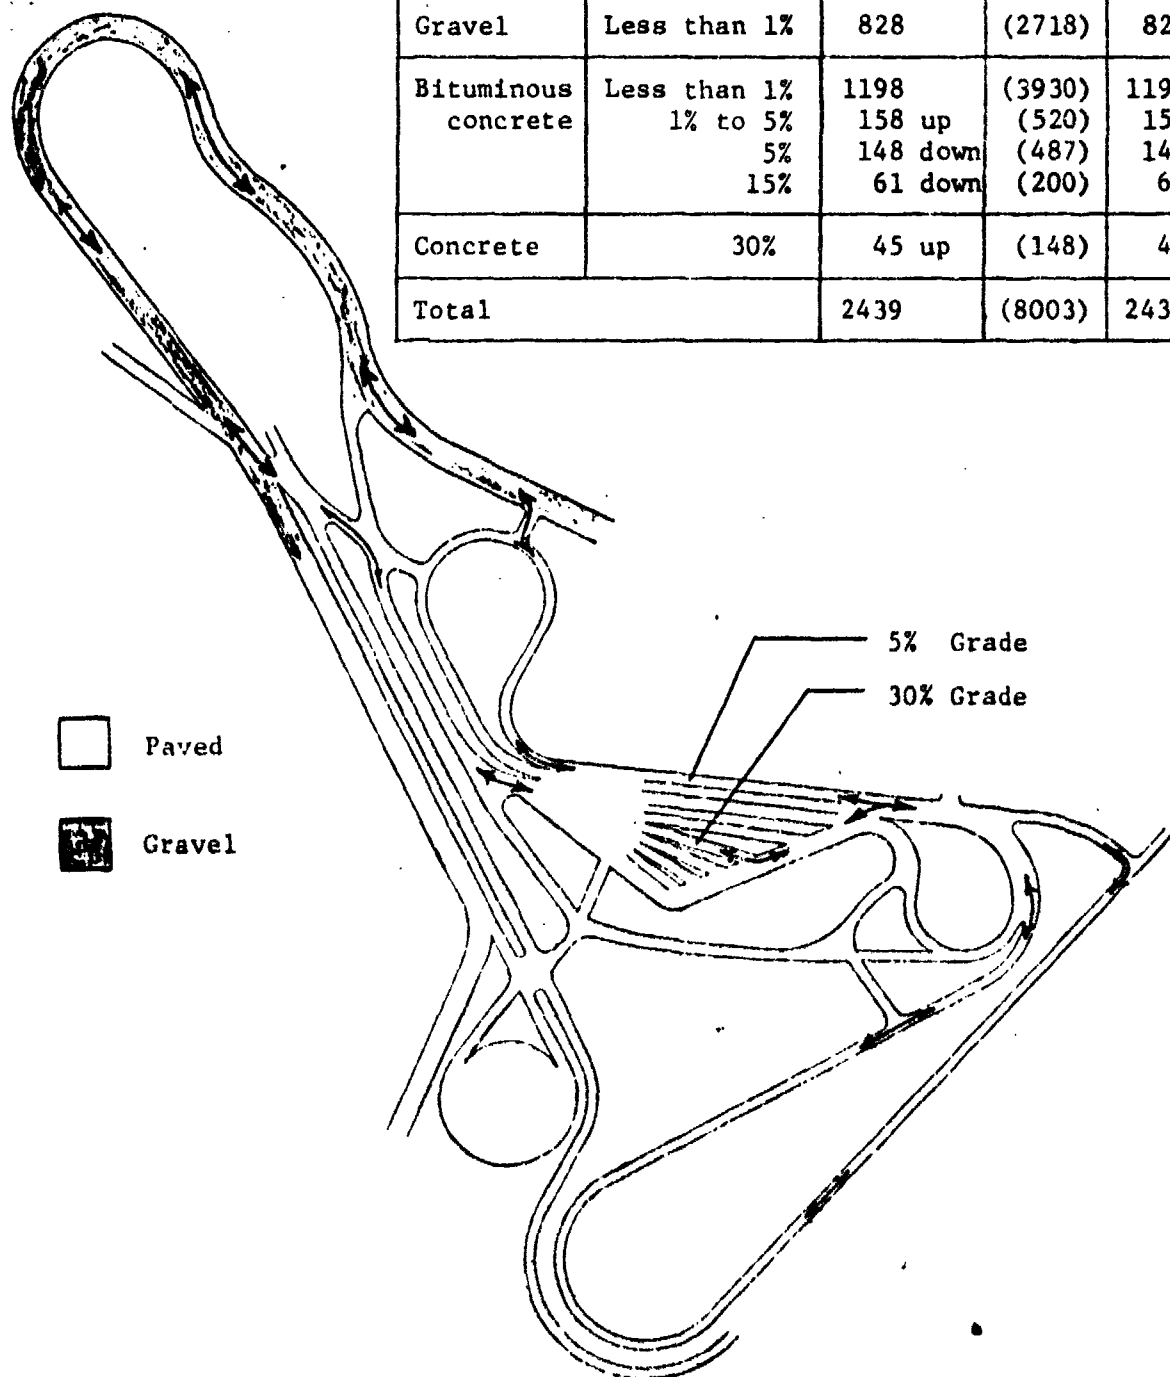

Figure 1. Fuel Consumption Course.
a. Operate the test vehicle over APG's standard fuel consumption course (Figure 1) in each direction of travel using increments of speed that span the normal service speeds of the vehicle for the test conditions. Run each test at a sustained speed, controlled by the driver.